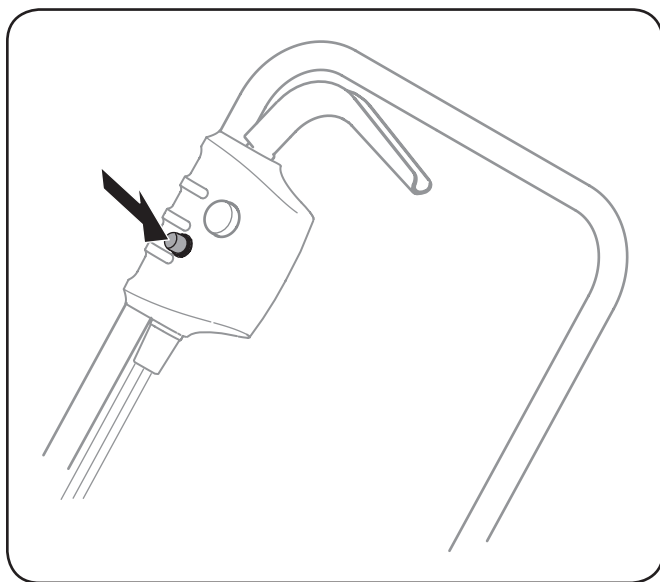

Figure 6-1
2. Press the circuit breaker reset button (located on the switch assembly) inward to reset. See Figure 6-1.